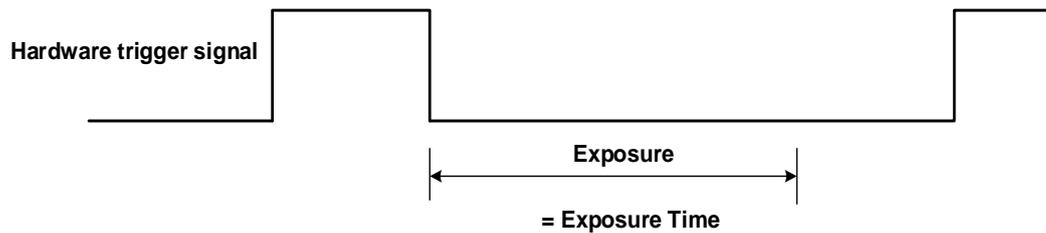

Figure 8-25 The sequence diagram in falling edge trigger of Timed exposure mode
- If falling edge triggering is enabled, exposure starts when the trigger signal falls and continue until the exposure time has expired, as shown in Figure 8-25